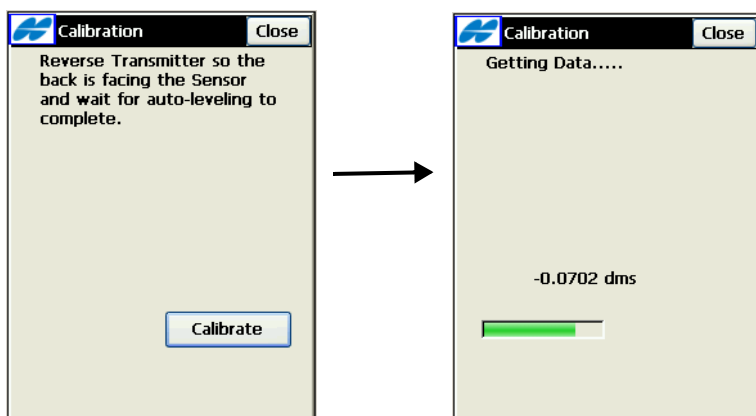

Figure A-17. Turn Transmitter to Back and Collect Data
8. Turn the transmitter 180° so the back faces the transmitter. Tap **Calibrate** (Figure A-17 on page A-11).